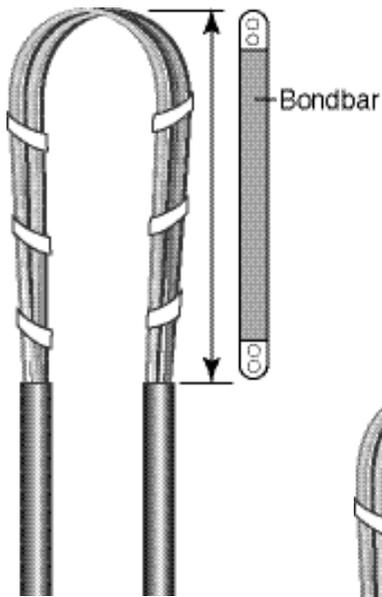

Figure 14
- Remove cable sheath and shield from the cable. Use supplied bond bar as a guide to determine splice opening. See Figure 14.